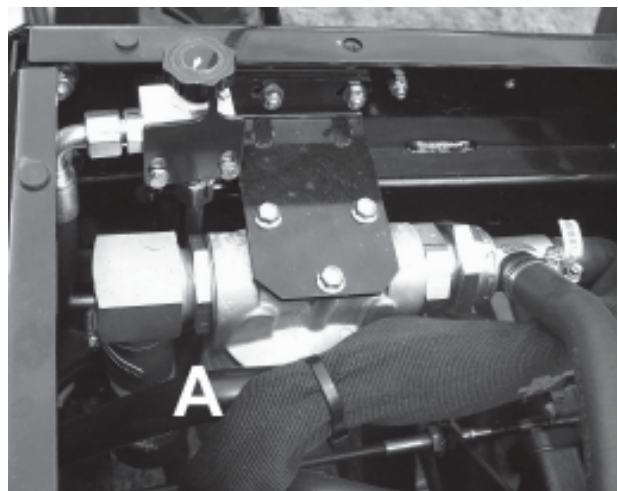

Fig.17
Change Hydraulic Oil Filter (A)(Fig.17))